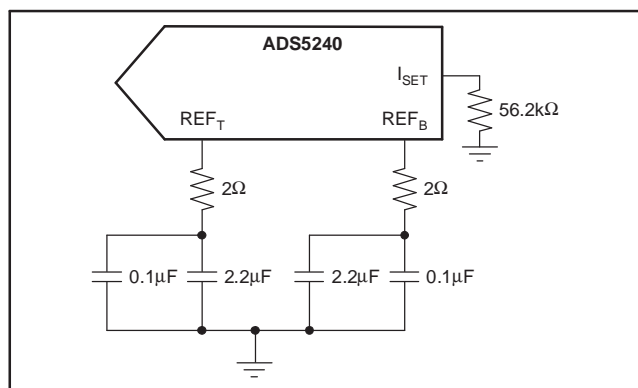

Figure 15. Internal Reference Mode
When using the internal reference mode, a 2 Ω resistor should be added between the reference pins (REF_T and REF_B) and the decoupling capacitor, as shown in Figure 15. If the device is used in the external reference mode, this 2 Ω resistor is not required.
- Deleted Figure 15 (Input Circuitry) of *Driving the Analog Inputs* section in Theory of Operation. 16
- Added Figure 15 (Overall Structure of the Sample-and-Hold Circuit). 17